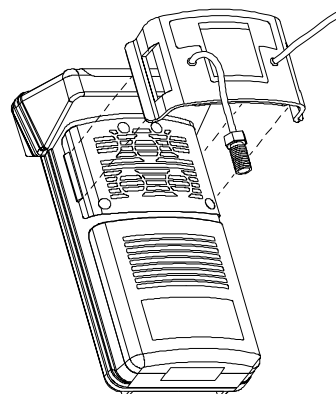

Figure 2-7.
- b. Position the Calibration Cap label "Front" indicator towards the instrument display and snap the Cap on the sensor cover (FIGURE 2-7).